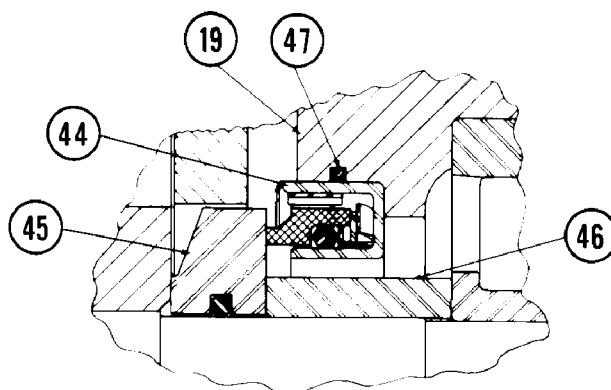

FIGURE 16 - MECHANICAL SEAL
Refer to FIGURE 16. When replacing, remove the oil seal components. Clean the shaft carefully, especially under the O-ring inserted in the groove of the mating ring, item 45. Before sliding item 45 into position, be sure to break the sharp edges at the shaft diameter